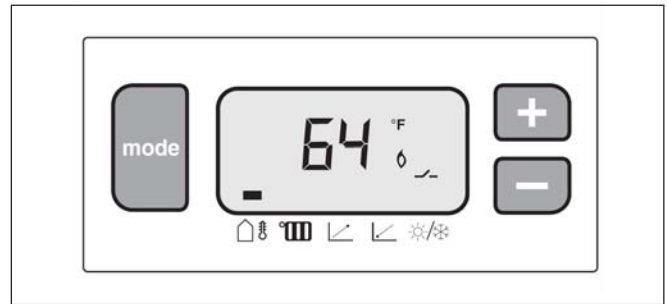

Fig.21 Default display: Current outdoor temperature
- When powering up the AM10 the current outdoor temperature is displayed (Fig. 21).
- Pressing the mode key again will return the display to the current outdoor temperature (Fig. 21).